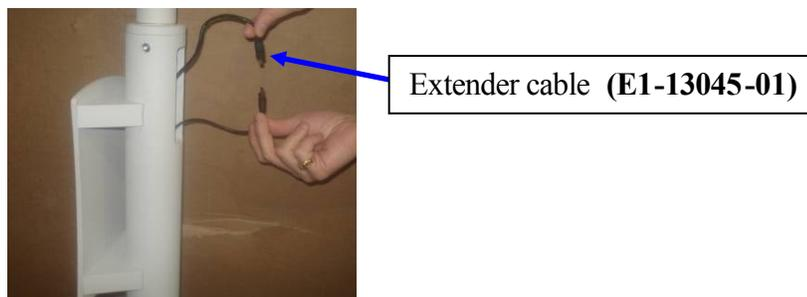

Figure 46
9. Connect the extender USB cable (part #E1-13045-01) to the USB cable originating from the articulating arm (see Figure 46 on page 26).